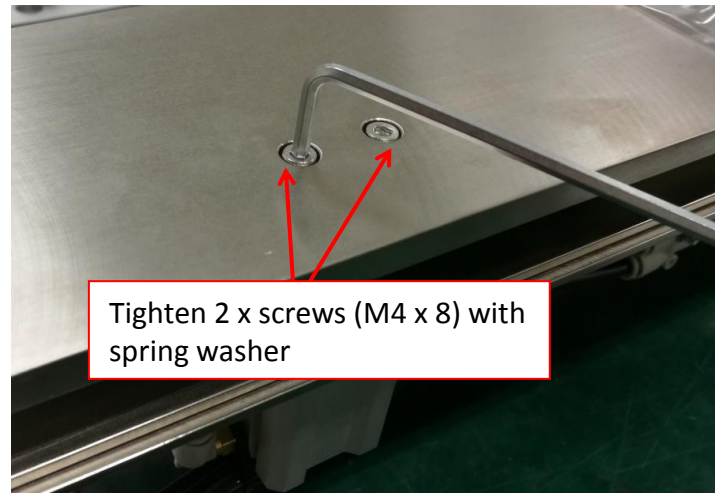

Figure 17 Screw Fastening
- c) Tighten 2 x screws (M4 x 8) respectively as shown in Figure 17.